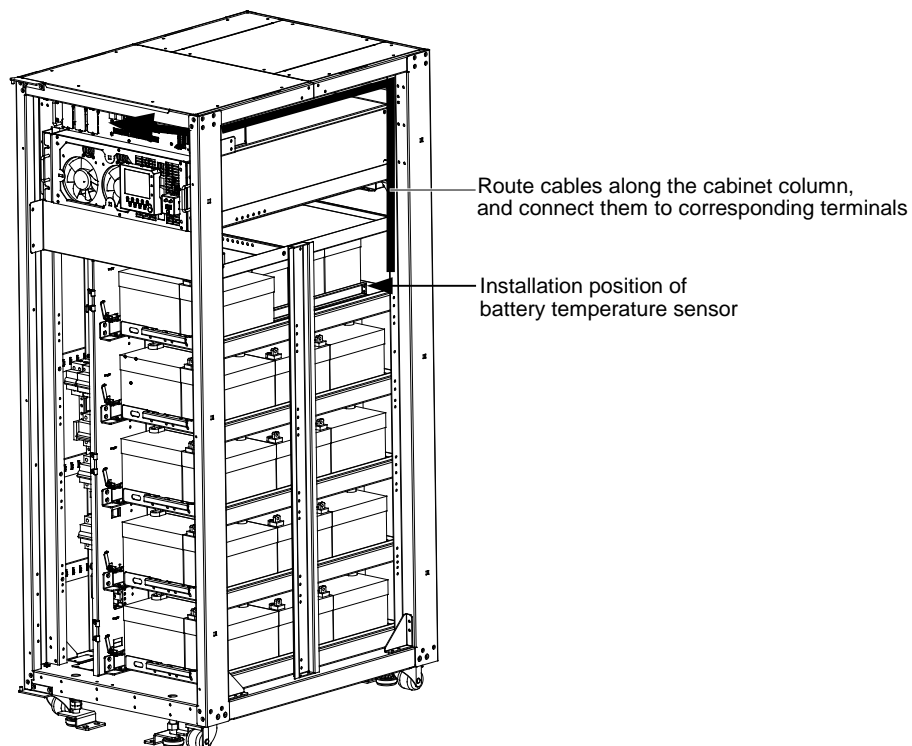

Figure 8-8 Installation and connection of battery temperature sensor
4. Remove the right side panel of the cabinet, place the battery temperature sensor onto the back area of the battery tray 1, and then insert the UF-RS485 card into the Intellislot port 1. The installation method of the UF-RS485 card is the same as that of the IS-WEBL card described in 8.2.6 *IS-WEBL card*. Refer to Figure 8-8 for installation and connection of the battery temperature sensor.
5. Wiring according to Figure 8-8, pack the cables in order. Note that the cables should be routed separately from the power cables, to avoid EMI.